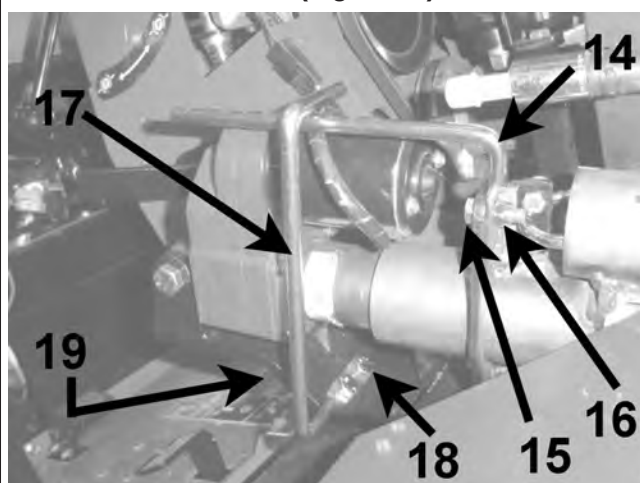

Figure 10
6. Install the Weight Transfer Indicator Scale **14** with two bolts **15** and two nuts **16** as shown. Install the Weight Transfer Indicator Pointer **17** with two bolts **18** and two nuts **19**. (Figure 10)